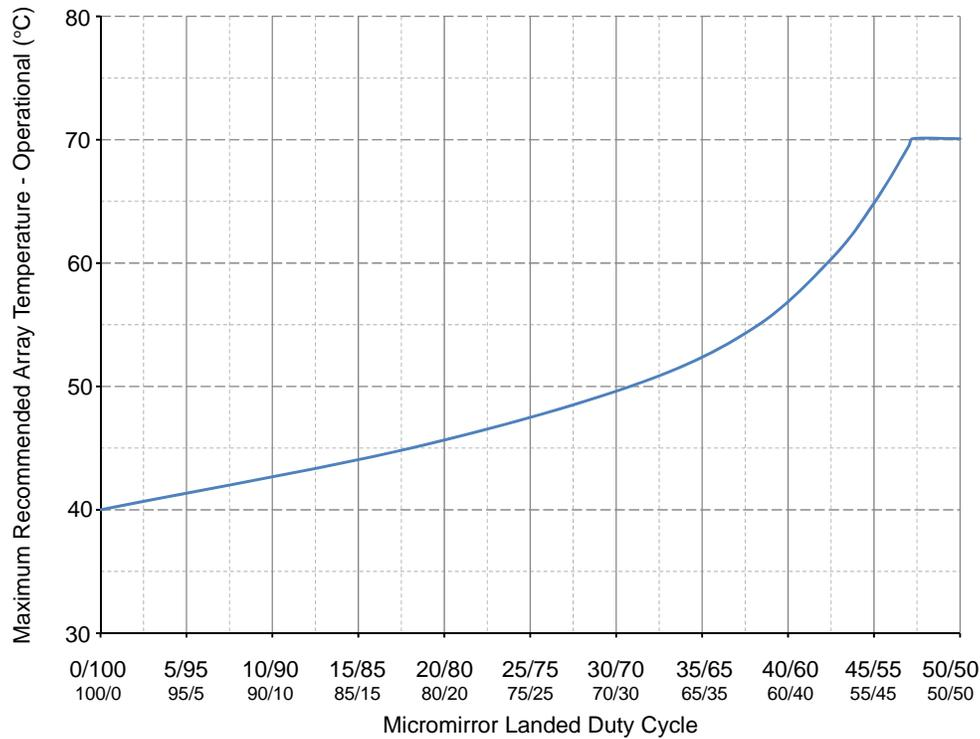

Figure 1. Maximum Recommended Array Temperature - Derating Curve
(13) Per Figure 1, the maximum operational array temperature should be derated based on the micromirror landed duty cycle that the DMD experiences in the end application. See Micromirror Landed-On/Landed-Off Duty Cycle for a definition of micromirror landed duty cycle.
(14) Long-term is defined as the usable life of the device.
(15) Array temperatures beyond those specified as long-term are recommended for short-term conditions only (power-up). Short-term is defined as cumulative time over the usable life of the device and is less than 500 hours.
(16) The maximum marginal ray angle of the incoming illumination light at any point in the micromirror array, including Pond of Micromirrors (POM), should not exceed 55 degrees from the normal to the device array plane. The device window aperture has not necessarily been designed to allow incoming light at higher maximum angles to pass to the micromirrors, and the device performance has not been tested nor qualified at angles exceeding this. Illumination light exceeding this angle outside the micromirror array (including POM) will contribute to thermal limitations described in this document, and may negatively affect lifetime.